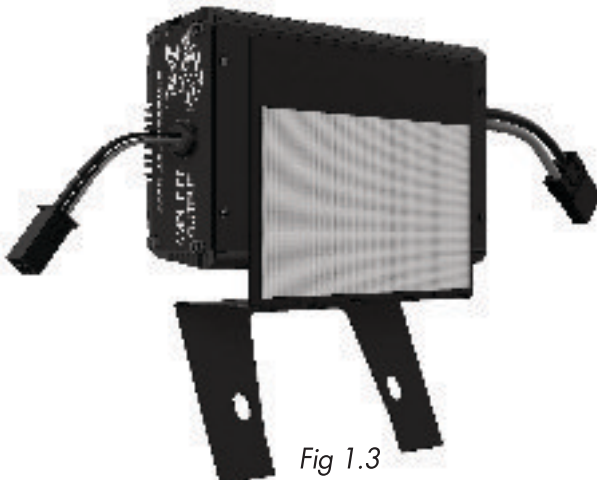

Fig 1.3
- Step #4: “Stick” one of the amplifiers to the BACK of the plate in the same orientation as shown in Fig 1.3.